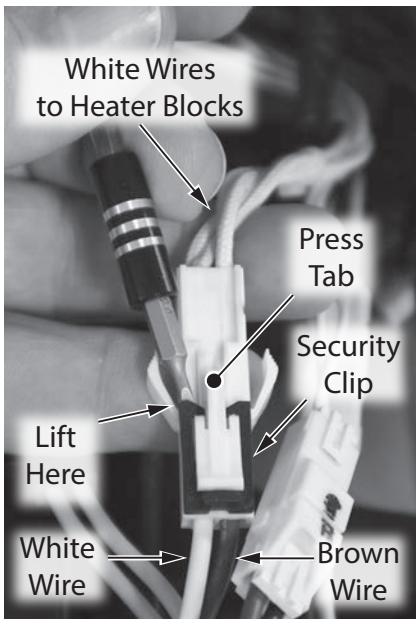

Figure 24 - Wiring security clip removal
- 15 To disconnect, gently remove the security clip with a mini pick or fingernail. Push tab as shown in Figure 24. Separate the harnesses. Place security clip aside in a safe place for reinstallation.